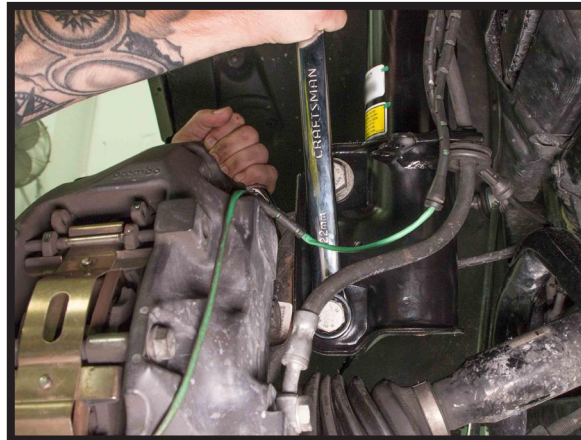

FIGURE 16
2. INSTALL THE LOWER MOUNTING BOLTS AND NUTS AND TIGHTEN TO MANUFACTURER'S SPECIFICATIONS. (FIGURE 16)